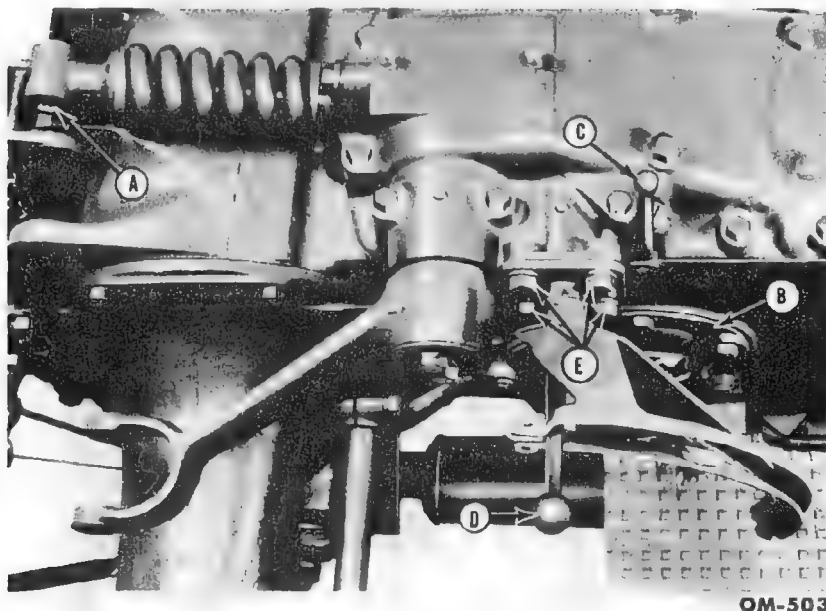

Fig. 66—Adjusting Main Control Spring
- (3) Turn the control spring yoke (A-fig. 66) until there is no end play in the spring. (It should be possible to turn the spring by hand using pressure of the thumb and the first two fingers. See fig. 67.)
- (1) Remove the inspection plate (B-fig. 66) from the right side of the center housing, and remove the oil from the case.
- (2) Disengage the implement position control lever (C-fig. 66) by pushing forward to the down position.
(3) Take hold of the control arm by inserting the left hand through the inspection plate opening, and with the right hand slowly raise the touch control lever (D-fig. 66) toward the top of the quadrant. Determine by sight and feeling when the end of the intake control valve is flush with the pump housing (fig. 69).
NOTE: *If the quadrant adjustment is correct, the end of the intake control valve will be flush with the pump housing, as shown in fig. 69, when the touch control lever is in full up position, as shown in D-fig. 66.*
(1) Loosen the four cap screws (E-fig. 66) in the quadrant support plate.
(2) Move the quadrant assembly rearward, until the end of the intake control valve is flush with the pump housing with the touch control lever in the maximum up position (D-fig. 66).
(3) Retighten the cap screws and check to see that the intake valve is fully open when the touch control lever is in the up position (D-fig. 66).